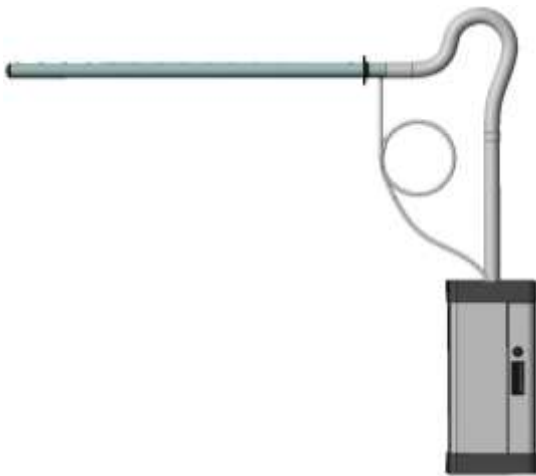
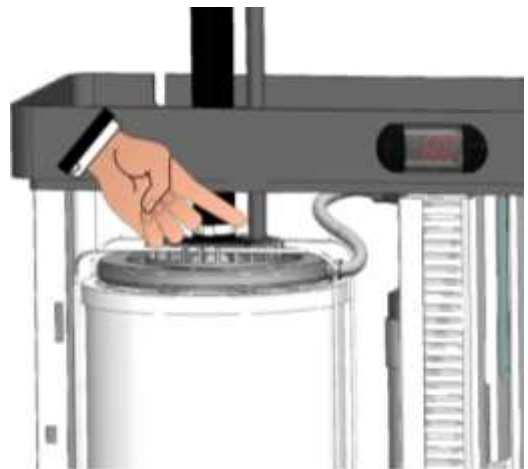

Fig.44
Fig. 45
2. If the distributor is positioned higher than the humidifier and the steam tube generates a siphon (e.g. Fig. 44), the condensate recovery must be installed, directly discharging in appropriate cylinder sleeve of the humidifier (Fig. 45) or in a water collection well. The condensate recovery is made connecting the 10mm sleeve of the distributor to the PEGO UMITUBODN10 tube for this type of application. In the path of the condensate recovery tube from distributor to humidifier or from distributor to well, a siphon must be made with full turn of 200mm minimum diameter; the siphon must be charged with water prior to installation. This will prevent steam exiting the condensate recovery tube (Fig. 44).